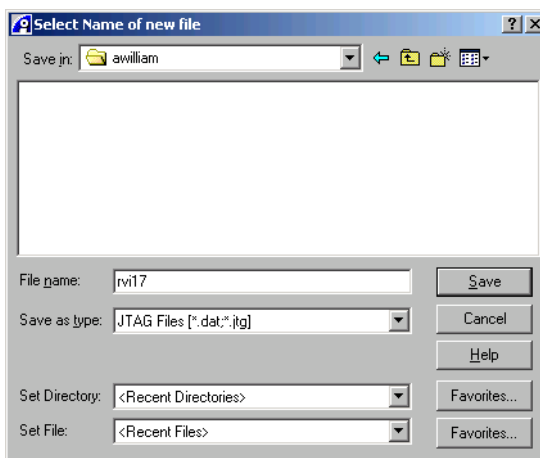

Figure B-10 Selecting where to store the new configuration file
7. Click **Empty** to create an empty configuration file. The Select Name of new file dialog box appears, as shown in Figure B-10.